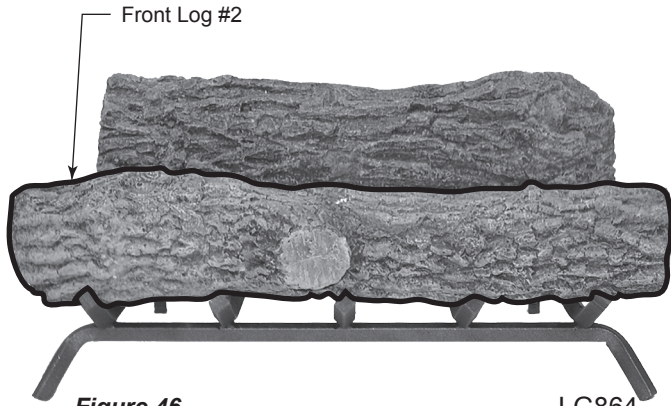

Figure 46 - Place Front Log on Grate
2. Place Front Log #1 on front of grate. *Figure 46*